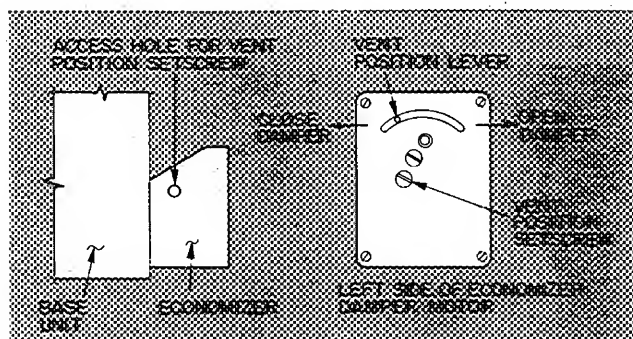

Fig. 27 — Vent Position Setting Details (008 Units)
- b. Slide economizer out of unit so that access hole to vent position setscrew is visible. See Fig. 27.
- c. Adjust vent opening by loosening vent position setscrew on left side of economizer damper motor and setting vent position lever to adjust damper (see Fig. 27). Move vent position lever back toward evaporator coil to close damper or forward to open damper. When adjustment is completed, retighten setscrew.